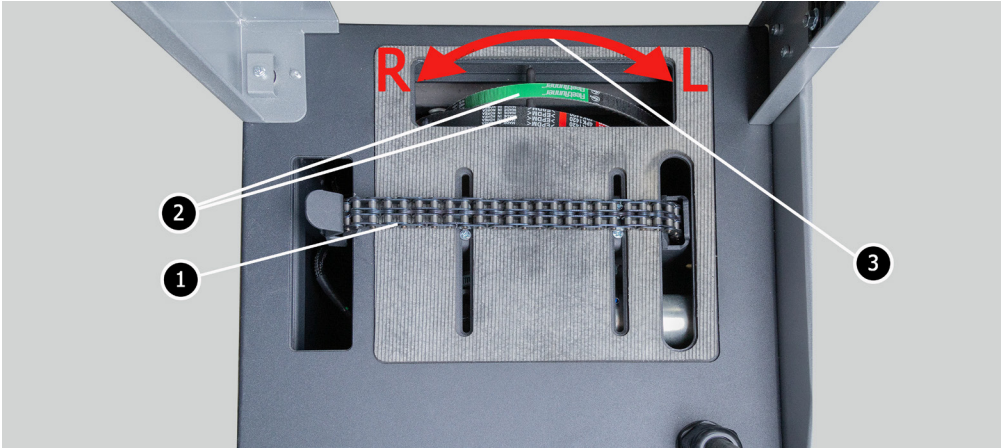

Figure 2. Bench working platform
The unit under diagnosis is mounted and secured on the working platform using a special chain (see pos. 1, Fig. 2). The alternator pulley is driven by one of two belts, either a V-belt or a multi-groove belt (see pos. 2, Fig. 2). The direction of drive rotation is indicated in pos. 3 of Fig. 2.